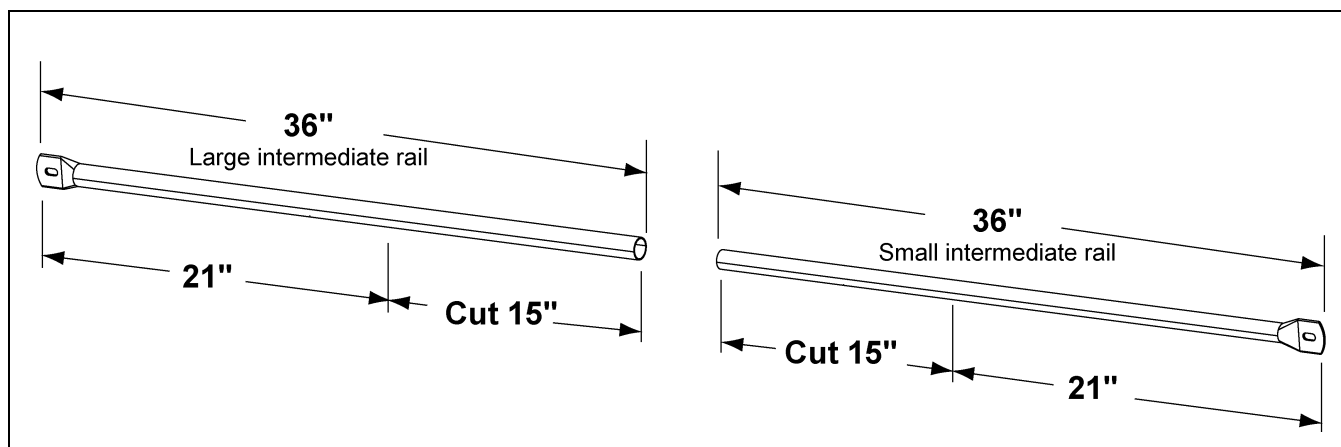

Figure 7S 21" Telescoping Handrail
2. Trim two (2) large and two (2) small rails by 15" each so that the remaining length of each rail, both small and large, is 21". (*See Figure 7S.*)